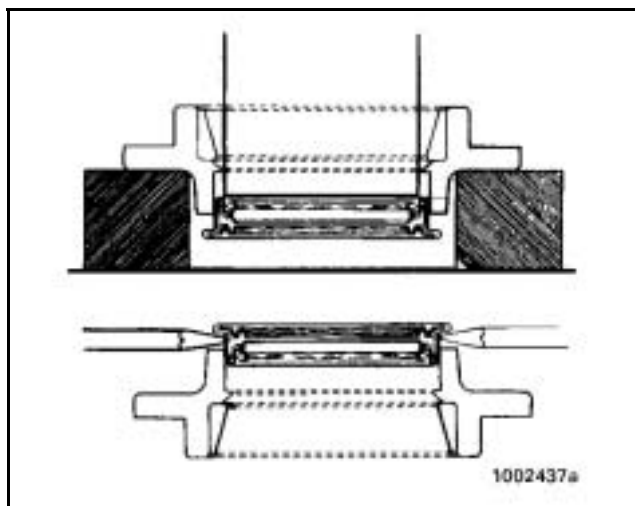

Figure 28
5. Use a press and a sleeve to remove the triple-lip or unitized oil seal from the bearing cage. If a press is not available, place a tool with a flat blade under the flange to remove the oil seal from the cage. **Figure 28.**